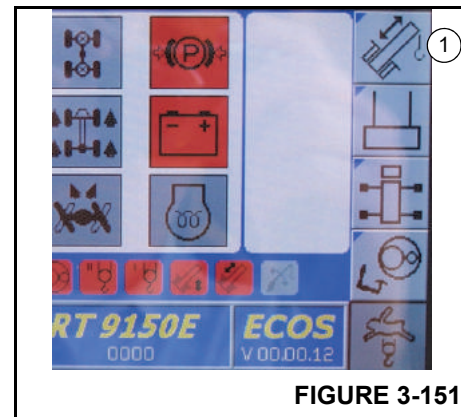

FIGURE 3-151
If necessary, open the main menu by pressing the *Esc* button, then press the F5 button (1) once (Figure 3-151).